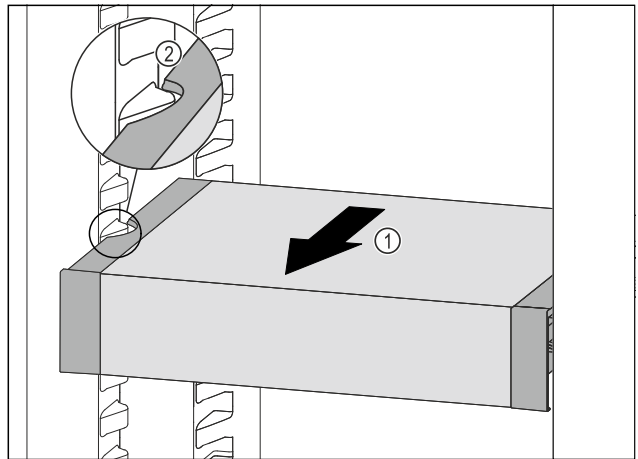

Fig. 108
- ▶ Pull VarioSafe forwards *Fig. 108 (1)* until the recesses in the side of the VarioSafe are at the level of the support rib in the fridge section. *Fig. 108 (2)*